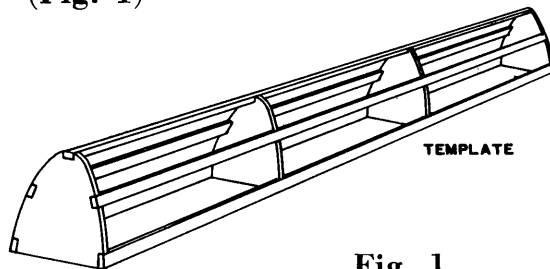

Fig. 1
1. Make a full size male template. This template can be made of wood and can be of skeleton construction. (Fig. 1)